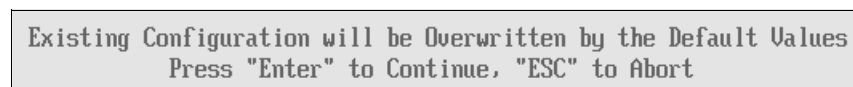

Figure 9-73 Message about overwriting the existing configuration
2. When prompted by the message “Existing configuration will be overwritten by the default values (Figure 9-73)”, press Enter to confirm.